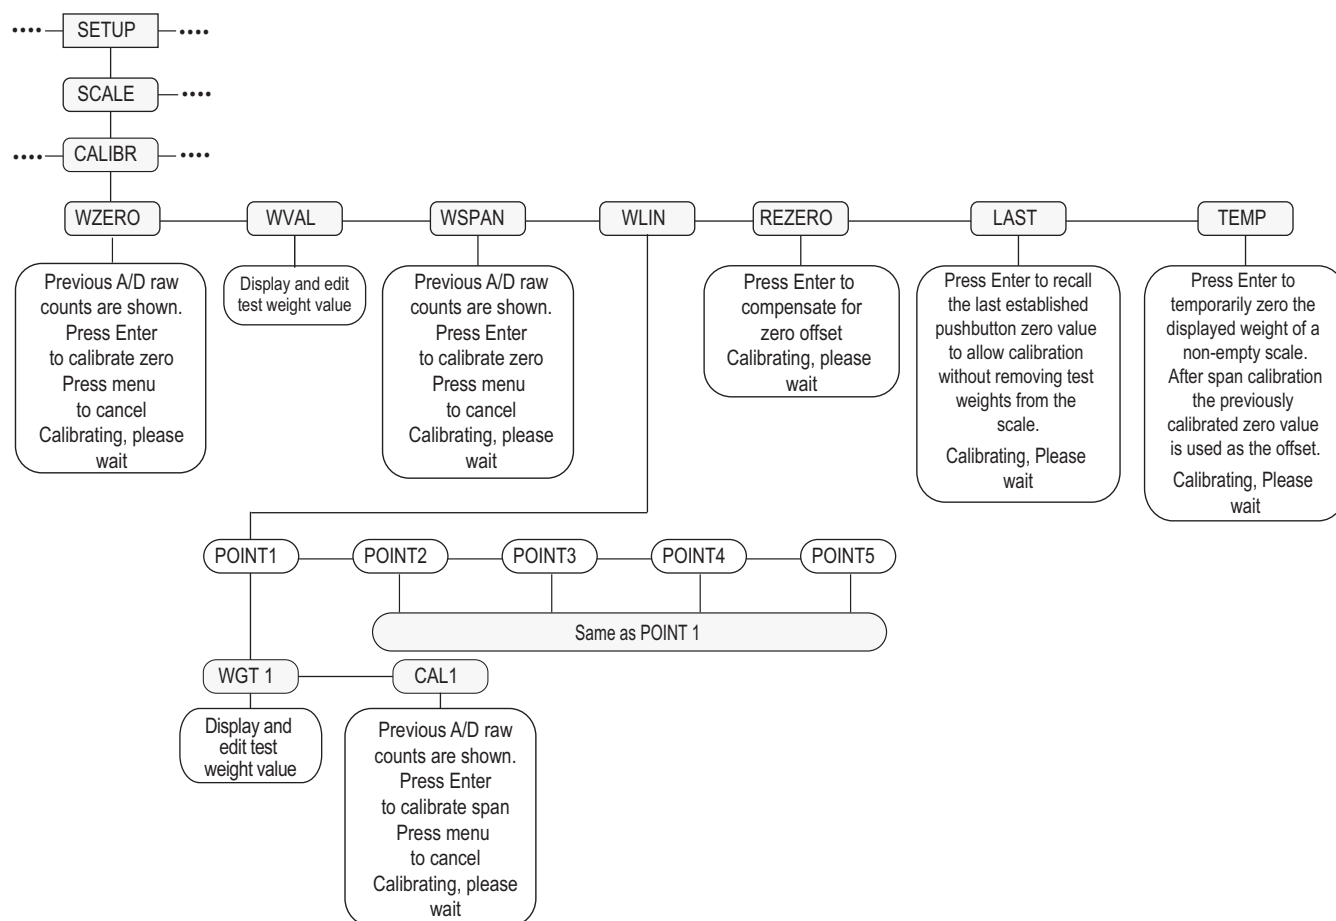

Figure 4-1. Calibration (CALIBR) Menu
1. Put the indicator in configuration mode using the setup switch on the back of the unit, see Figure 3-1 on page 35, (or use  if audit trail is enabled), and navigate to CALIBR, see Figure 4-1 on page 61.